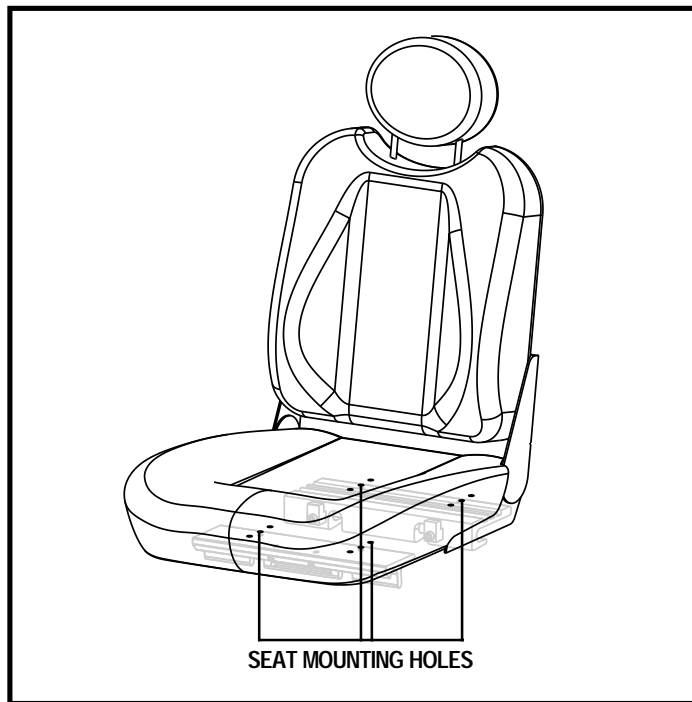

Figure 17. Seat Position Adjustment
7. Reposition the extrusions on a different set of mounting holes. You must move both extrusions the same number of holes either forward or rearwards. See figure 17.